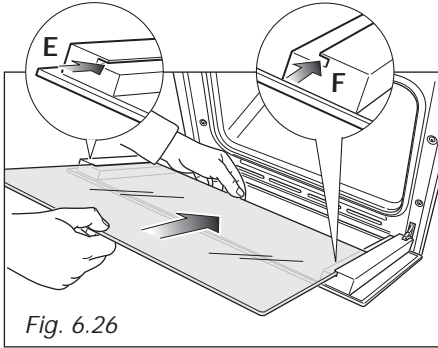
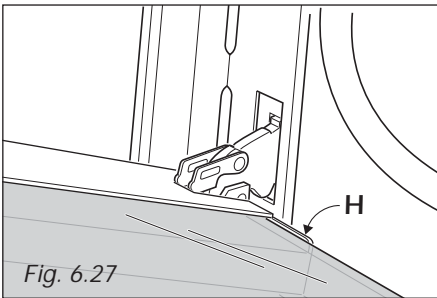

Fig. 6.26
Fig. 6.27
- Insert the pane in the left **E** and right **F** slide guides (fig. 6.26), and gently slide it to the retainers **H** (Fig. 6.27).